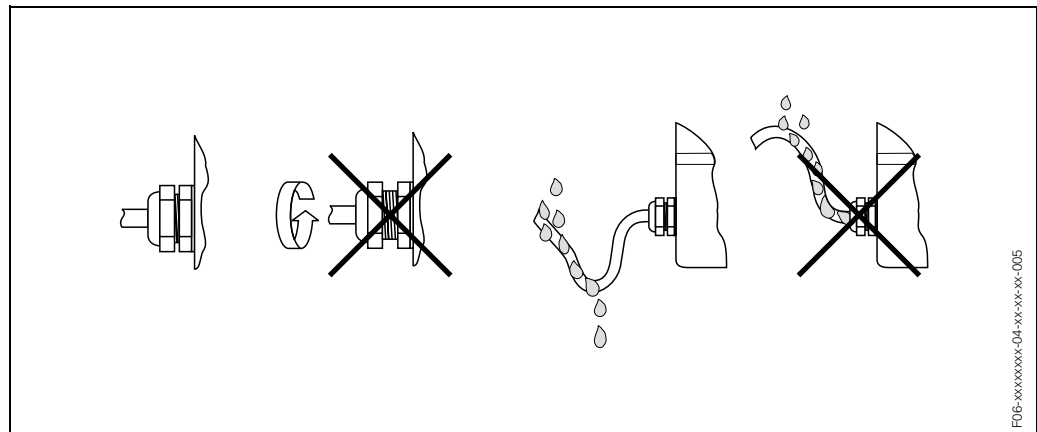

Fig. 13: Installation instructions, cable entries
- Firmly tighten the cable entries (Fig. 13).
- The cables must loop down before they enter the cable entries ("water trap", Fig. 13). This arrangement prevents moisture from penetrating the entry. Always install the measuring device in such a way that the cable entries do not point up.